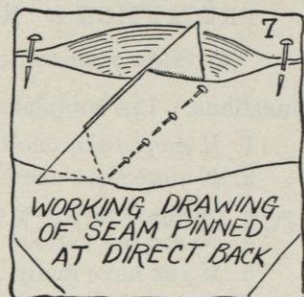

FIG. 7.
- b. If more than one bias strip is needed to give the measurement written down in Section 1 b (3), join these, using small combination stitches *before* starting to make the binding. (See Section 4 of Job 15 and Figures 7 A, 7 B and 8 of the same job, pages 64 and 65.)
- (1) Pin the two ends of the bias strip together in a seam with the raw edges towards you (see Figure 7). You may have to bend the brim a little out of shape to do this. Be sure the bias fits the brim tightly.
- (2) Sew the seam with small combination stitches. If you needed more than one bias strip to make your binding, be sure to place the seams evenly on both sides of direct back, and be sure both seams run parallel.
- (3) Open the seam and press it flat.